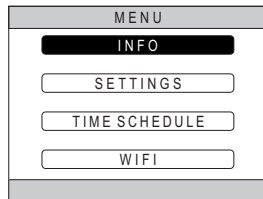

fig. 15
2. Press the button . The display shows the menu "fig. 15"